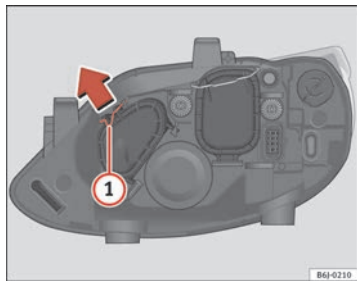

Fig. 139 Main beam headlights
- Move the loop ① in the direction of the arrow and remove the cover ⇒ fig. 139.